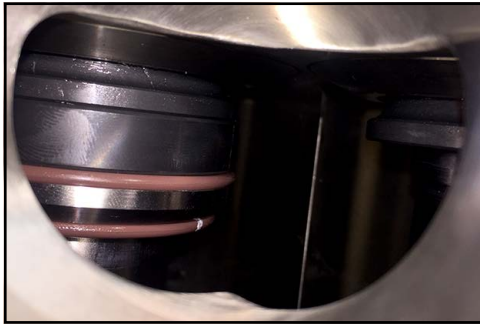

Figure 108 - View through port
8. Figure 107 shows the seal cap assembly installed on the shaft. See the note next to Figure 108 on page 54.
NOTE: If the port is not connected to piping, look through it to visually confirm that all the O-rings and seal faces are installed correctly, as shown in Figure 108.